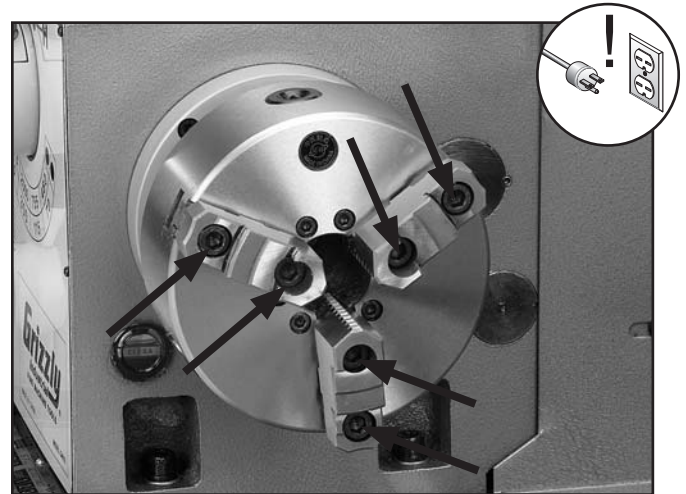

Figure 22. Cap screws securing the jaws.
1. Remove the cap screws (**Figure 22**) from one of the jaws with an 8mm hex wrench, then remove the jaw.